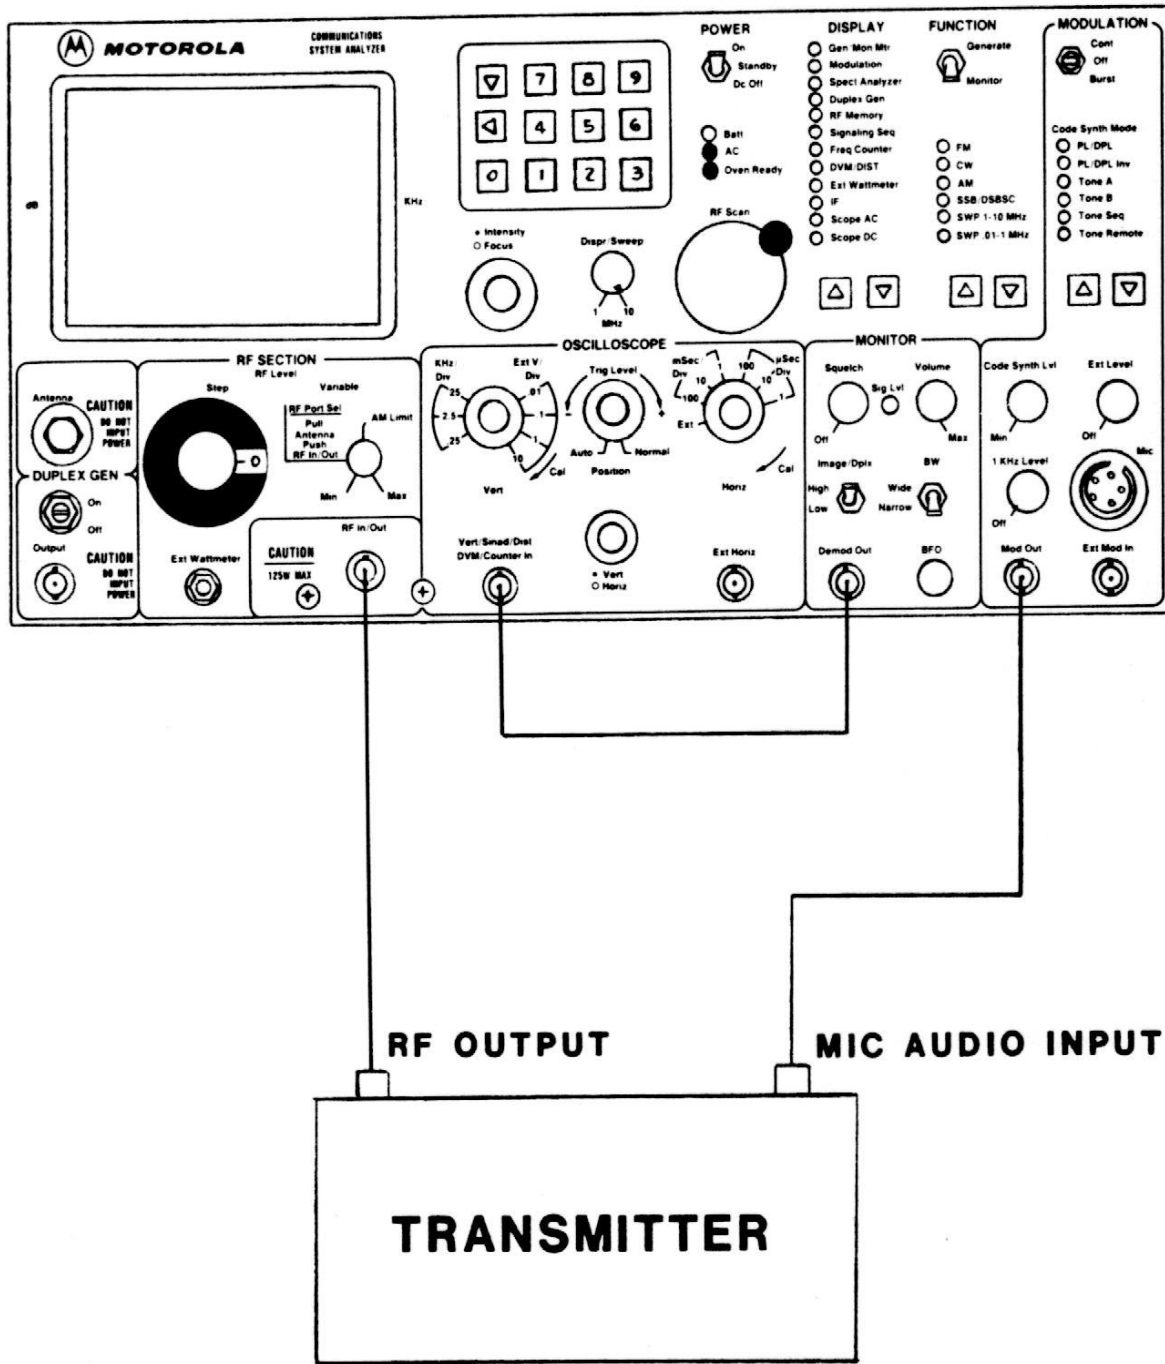

FIGURE 4-9. AUDIO DISTORTION SETUP
2. Connect the Analyzer to the transmitter, as shown in figure 4-9.